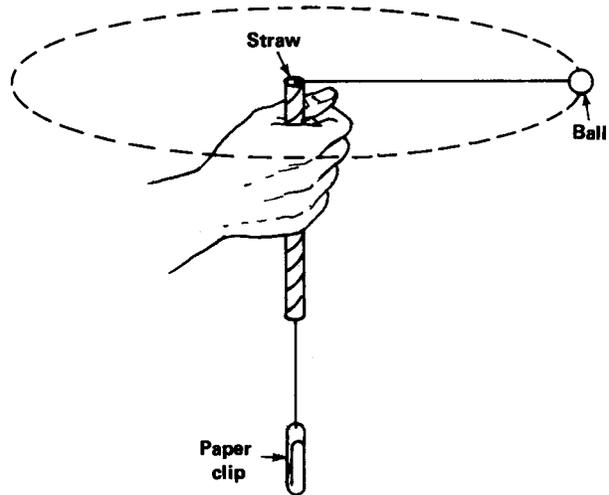

Figure 5-19
2. Hold the straw in one hand and start the ball whirling (Fig. 5-19). Allow the thread to slide up and down through the straw. (*Be careful not to strike anyone with the whirling ball.*)